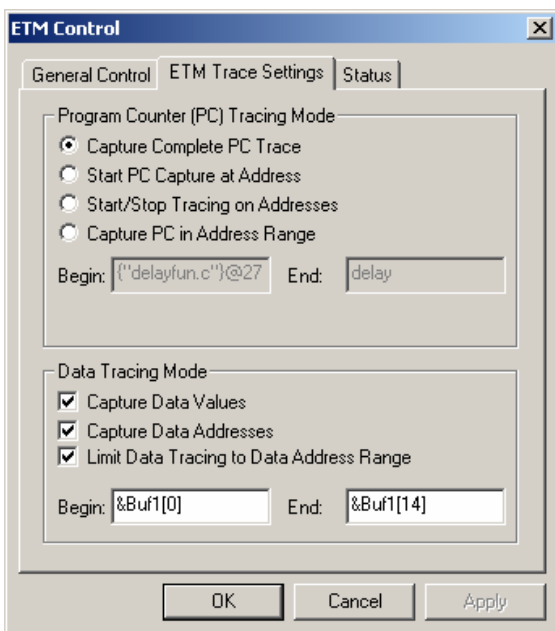

FIGURE 31 Adding tracing of variables to the ETM settings
- To eliminate any function from the trace, we must use the **Start/Stop Tracing on Address** feature. Also, it is necessary to enter the function's exit address in the trace **Begin** field and the function's entry point in the trace **End** field. Figure 31 shows an example with the delay functions filtered out, allowing the trace to capture over 622 msec of the run time.
To trace what is read and written to the `Buf1[]` array, click on the Control button, select the ETM Trace Settings tab and make sure the Capture Complete PC Range is selected (Figure 31).